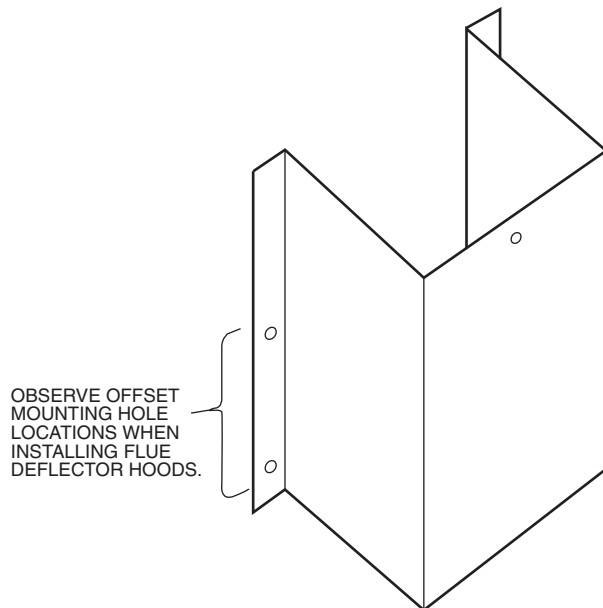

Fig. 64 — Mounting Deflector Hoods
4. Install flue deflector hood assembly over each flue outlet hood. See Fig. 64. Observe the offset mounting hole locations in the deflector hood flanges when attaching hood to panel. Holes in the mounting flange must be at the bottom when attached.